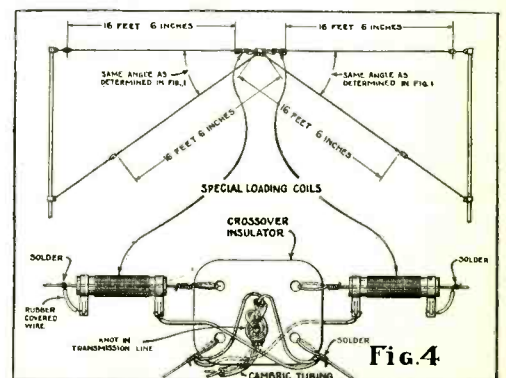

Fig. 4
A. By installing loading coils—an accessory to the Kit (RCA Stock No. 6958)—as shown in Fig. 4. These permit a shortening of the over-all length to approximately 33 feet (two 16½-foot sections).